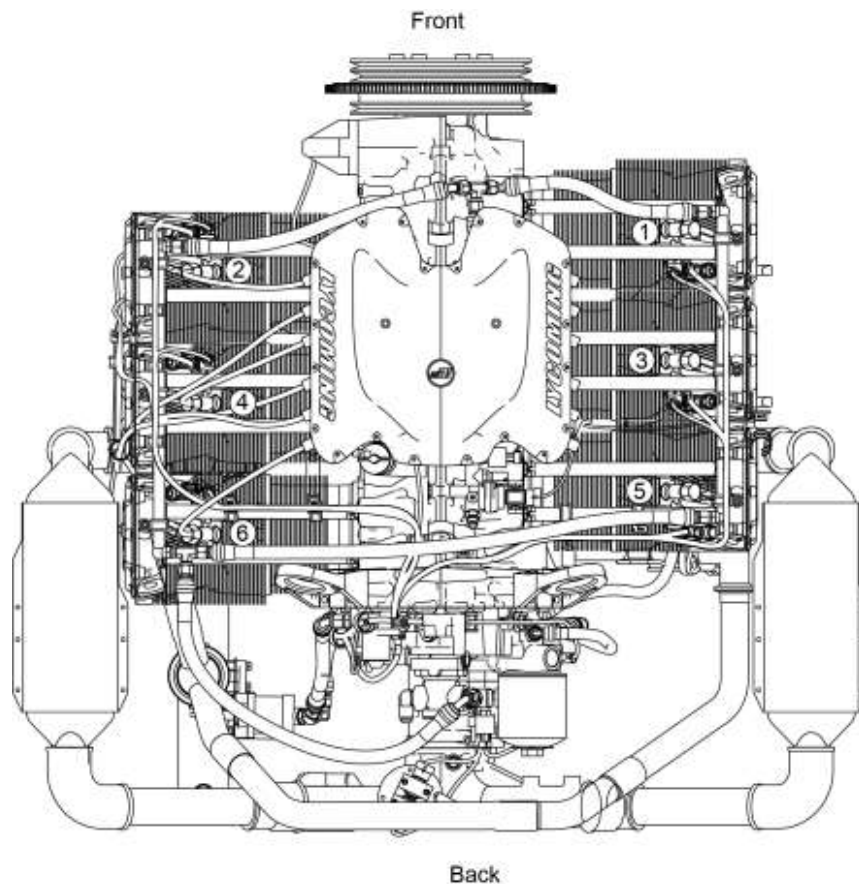

Figure 3
- In a top view of the engine, the left side cylinders are 2-4-6. Cylinder 2 is at the front of the engine. Refer to Figure 3.
- In a top view of the engine, the cylinders on the right are 1-3-5. Cylinder 1 is at the front of the engine. Refer to Figure 3.